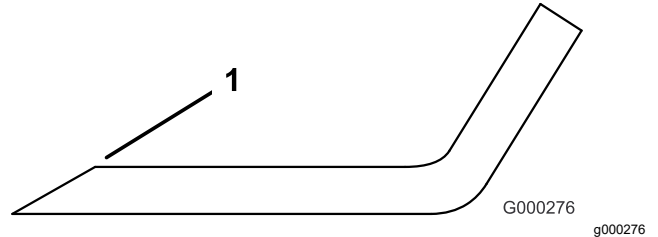

Figure 82
1. Use a file to sharpen the cutting edge at both ends of the blade (Figure 82).
Note: If the blade is not balanced, file some metal off the end of the sail area only (Figure 82).